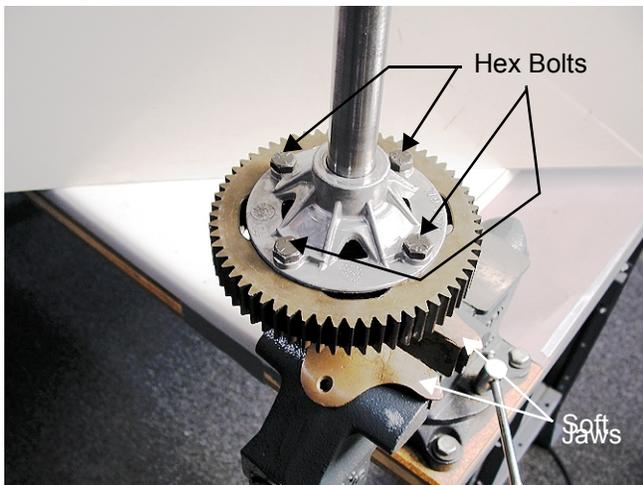

Figure 22
27. Secure the differential assembly in the vertical position, in the soft jaws of a vice, with the hex bolts facing up. See Figure 22.